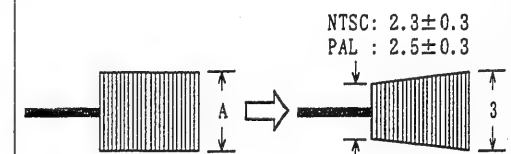
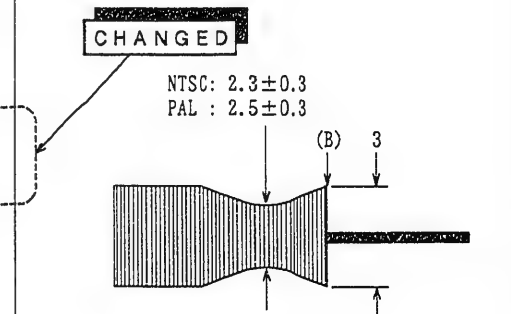

Fig. 4-1
Fig. 4-2
4. ADJUSTMENT AFTER REPLACING THE CYLINDER (Figs. 4-1, 4-2)
<p>● Adjustment procedure</p> <p>Caution: Before performing this adjustment, refer to Fig. 6-1 and modify the ATF-R jig.</p> <p>1) After inserting the alignment tape which was completely rewound, set the camera/recorder to the test mode by the following procedure. [Procedure to set to the test mode] ① Remove the power supply from the camera/recorder. ② Set the CAMERA/OFF/VCR switch to VCR position. ③ Check that the ATF-R jig (SW1: OFF, SW3: ON) is connected and then press the playback button and hold it, then supply the power again to the camera/recorder.</p> <p><Note> 1. If the mechanical block operates (enters the playback mode) simultaneously when the power is supplied again, the camera/recorder does not enter the test mode. Restart from step (1) again. 2. The test mode is released when the power supply is removed from the camera/recorder.</p> <p>2) Connect an oscilloscope to TP3 on the ATF-R jig and press the PLAY button.</p> <p>3) Synchronize the oscilloscope with TP1(SW25/30) on the ATF-R jig.</p> <p>4) Set the oscilloscope to (+) slope.</p> <p>5) Press SW2 on the ATF-R jig and hold it, then perform the following steps.</p> <p>6) Adjust the voltage level control of the oscilloscope so that portion (A) of the waveform is set to 4 graduations.</p> <p>7) Set SW1 on the ATF-R jig to ON.</p> <p>8) Turn RT1 on the ATF-R jig counterclockwise so that portion (A) of the waveform is set to 3 graduations.</p> <p>9) Adjust the height of the supply guide roller so the minimum amplitude of the waveform is set to NTSC: 2.3 ± 0.3 / PAL: 2.5 ± 0.3 graduations. (See Fig. 4-1)</p> <p>10) If this cannot be confirmed, adjust the height of the supply guide roller, referring to "3-3. Supply/Take-up Guide Roller Height Adjustment".</p> <p>11) Set the oscilloscope to (-) slope.</p> <p>12) Turn RT1 on the ATF-R jig counterclockwise so the voltage at point (C) on the ATF-R jig is $1.8 \pm 0.1V$. Then check that point (B) of the waveform is set to 3 graduation.</p> <p>13) Check that the minimum amplitude of the waveform is set to NTSC: 2.3 ± 0.3 / PAL: 2.5 ± 0.3 graduations. (See Fig. 4-2) If this cannot be confirmed, adjust the height of the take-up guide roller, referring to "3-3. Supply/Take-up Guide Roller Height Adjustment".</p> <p>14) Perform the following electrical adjustments. • Head switching point adjustment • Record luminance/chroma level adjustment Caution: After adjustment is complete, be sure to reverse the modification to ATF-R jig.</p>